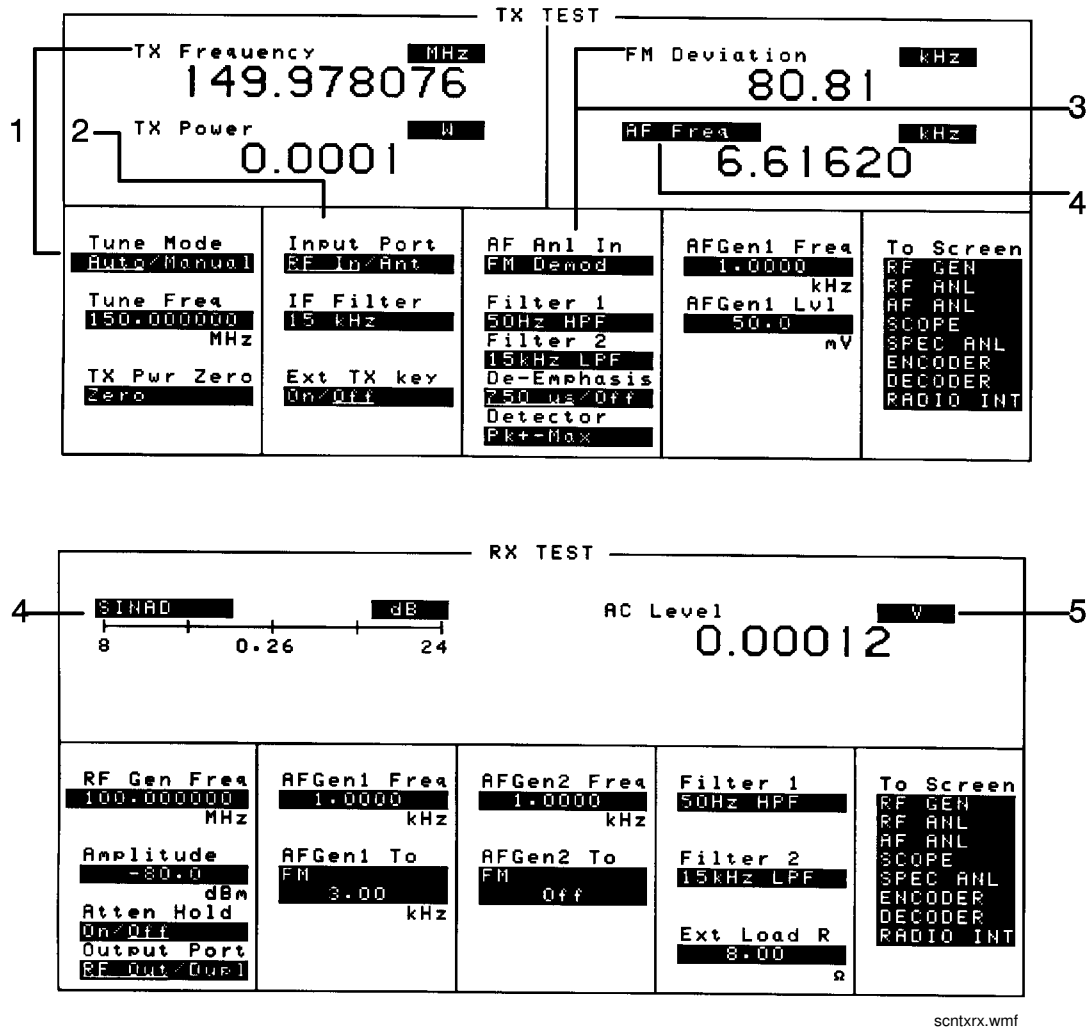

Figure 8 Where To Access Measurements
TX Frequency is displayed when **Tune Mode** is set to **Auto**. (Refer to item (1) in Figure 8 on page 57.)
TX Freq Error is displayed when **Tune Mode** is set to **Manual**. (Refer to item (1) in Figure 8 on page 57.)
TX Power is only measured and displayed here when the **Input Port** is set to **RF In** (Refer to item (2) in Figure 8 on page 57). If **Ant** (antenna) is selected, the measurement is replaced by four dashes (- - - -).
The **AF An1 In** setting determines the AF Analyzer's input and the measurement displayed in the top-right corner of the measurement area (see Table 5). These measurements are available in the TX TEST, DUPLEX TEST, RF GENERATOR, RF ANALYZER, and AF ANALYZER screens. (Refer to item (3) in Figure 8 on page 57.)
- a. AC Level is also measured in the RX TEST screen, but always uses the AUDIO IN connector as the input. (Refer to item (5) in Figure 8 on page 57.)
Selecting the currently-displayed measurement causes the **To Screen** menu to be replaced by a list of measurement choices. Select the new choice to replace the old measurement. These measurements are available in the RX TEST, TX TEST, DUPLEX TEST, RF GENERATOR, RF ANALYZER, and AF ANALYZER screens. (Refer to item (4) in Figure 8 on page 57)
AF Power is measured in the RX TEST screen by specifying the external load resistance, **Ext Load R**, and changing the unit of measure for the **AC Level** measurement to W (Watts), mW, or dBm. (The milliwatt (mW) unit is selected by pressing SHIFT, ENTER) Refer to item (5) Figure 8 on page 57.